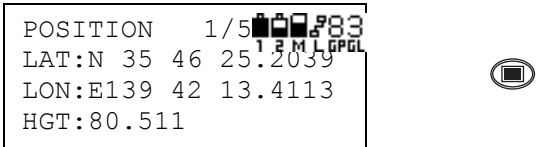

Figure 3-32. Current Display and Menu Key
1. Press the **menu** key, initiating the menu mode (Figure 3-32).